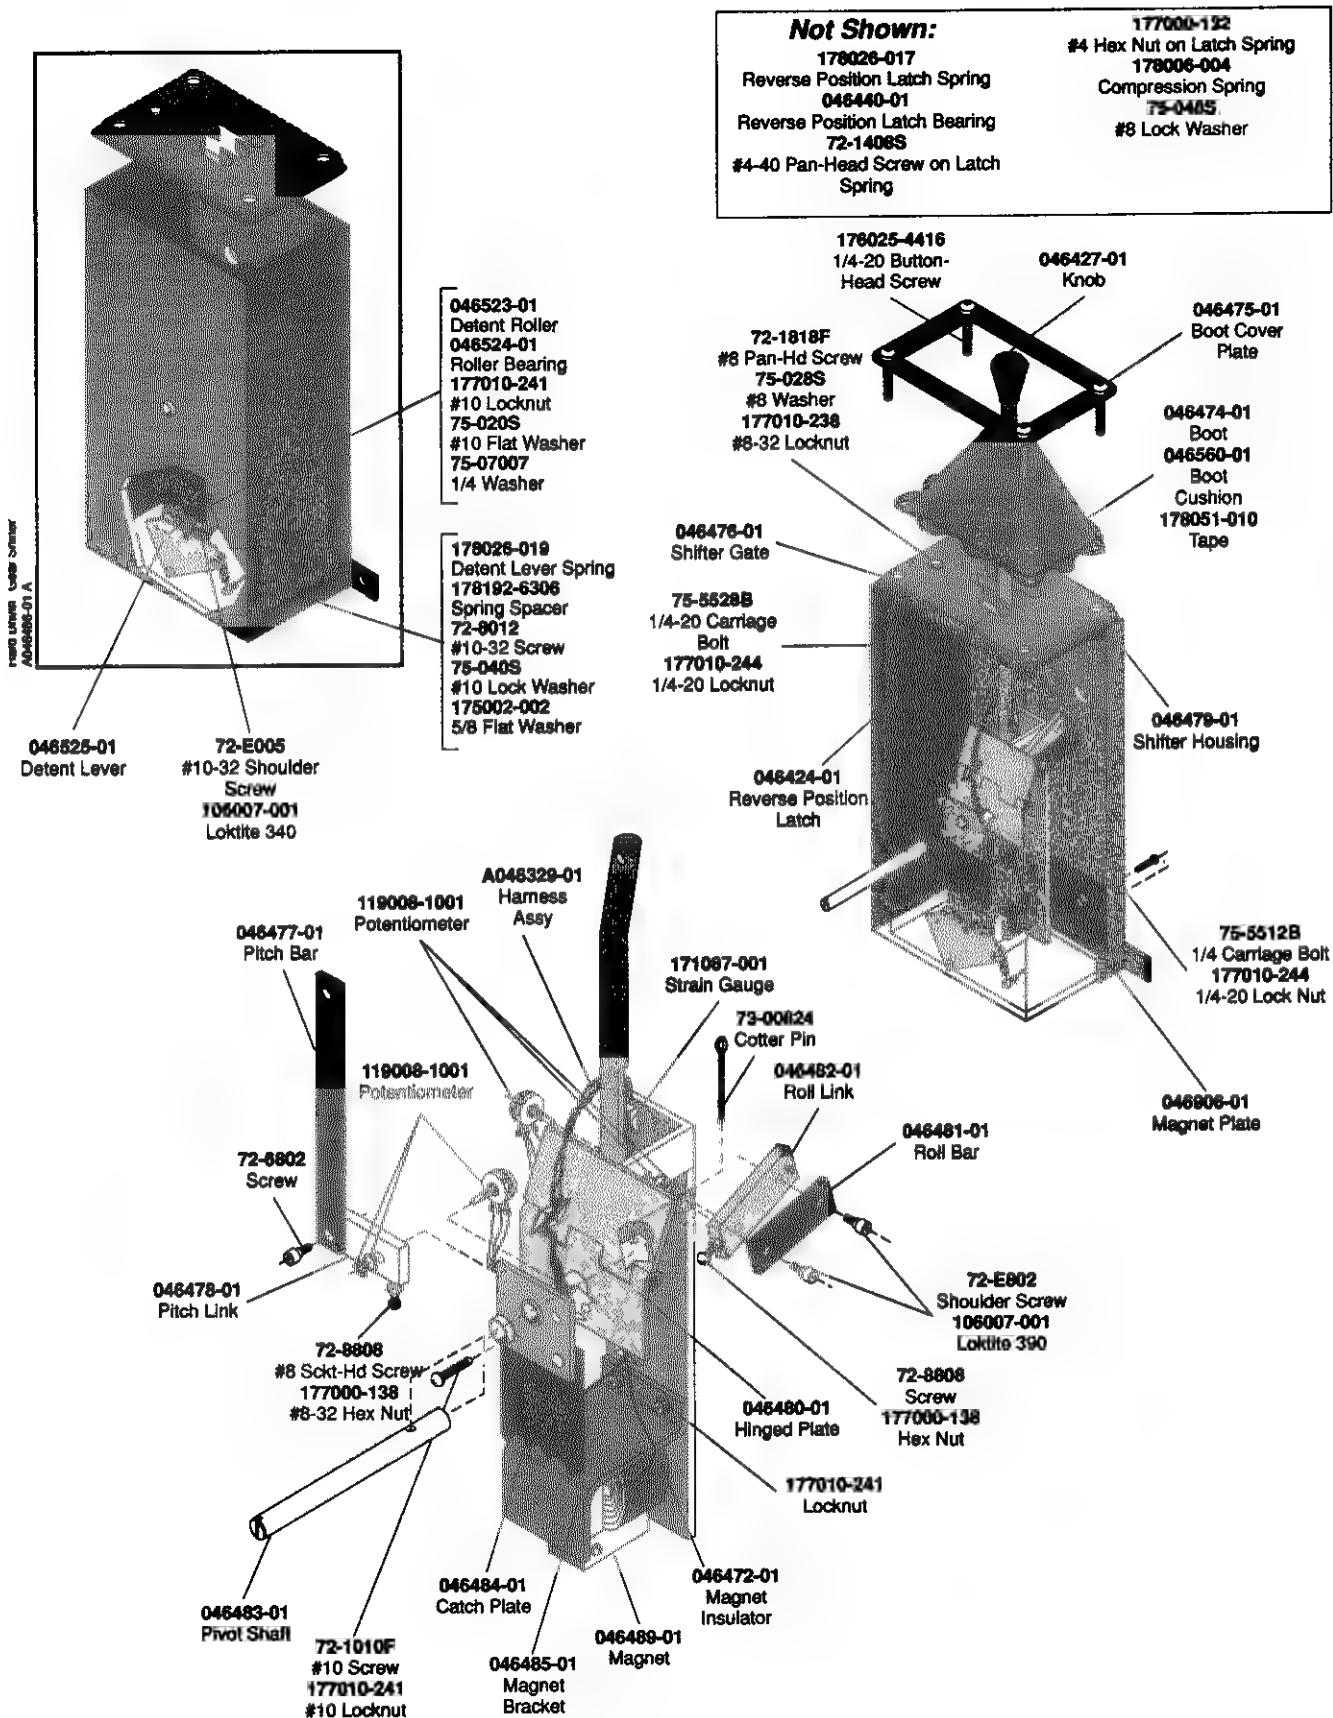

Figure 3-13 Maintaining the Shifter
- If the seat does not lock when it should, follow the flowchart in Figure 3-13.